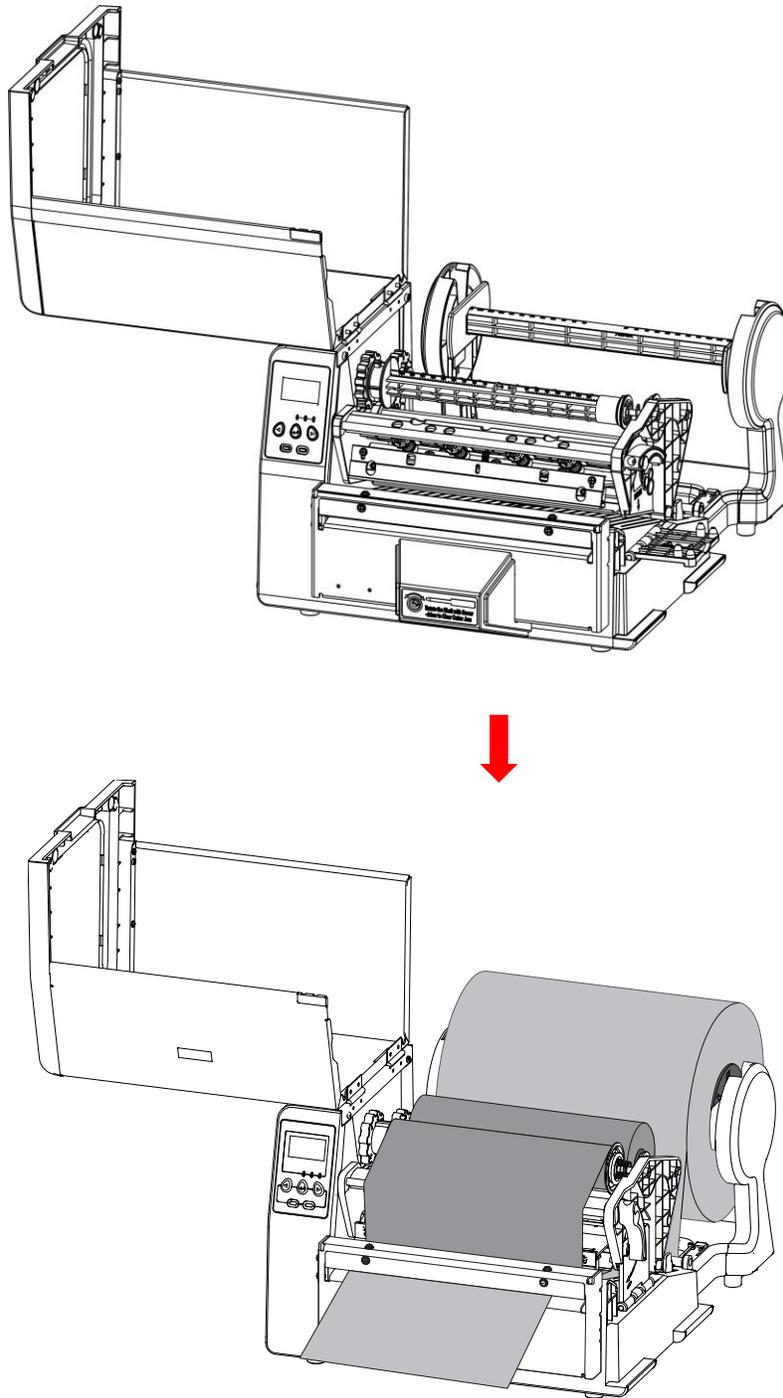

Figure 2-19
2. Lead the media pass over the Platen Roller and through the cutter (see figure 2-19); please note to use the scale on the tear bar to position the media in the middle. If the media cannot pass through the cutter, please see the operation of step 5 (Reset the cutter) of “Cutting Mode” in chapter 3 to solve the problem.